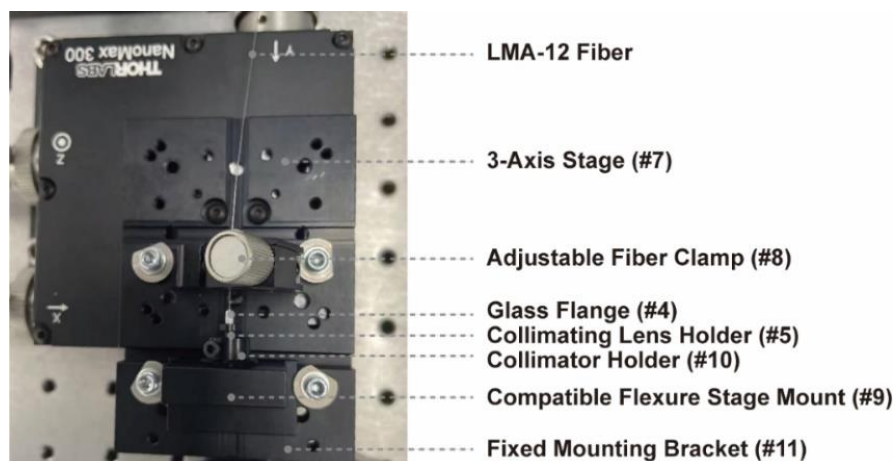

Figure 2.3 Fiber coupling stage
Step 11. Set up the fiber coupling stage according to Figure 2.3. Align the V-groove of the adjustable fiber clamp (#8) and the center of the collimator holder (#10) by adjusting the 3-axis stage (#7).